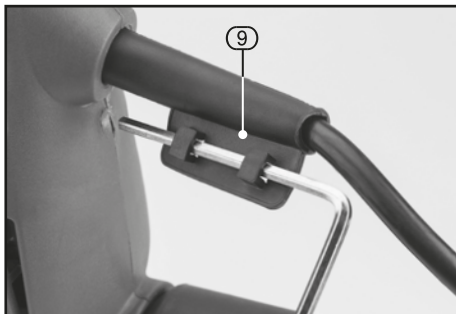

FIG.8
Note: Convenient hex. key storage (9) is incorporated into the base of the power supply cable (fig.8).